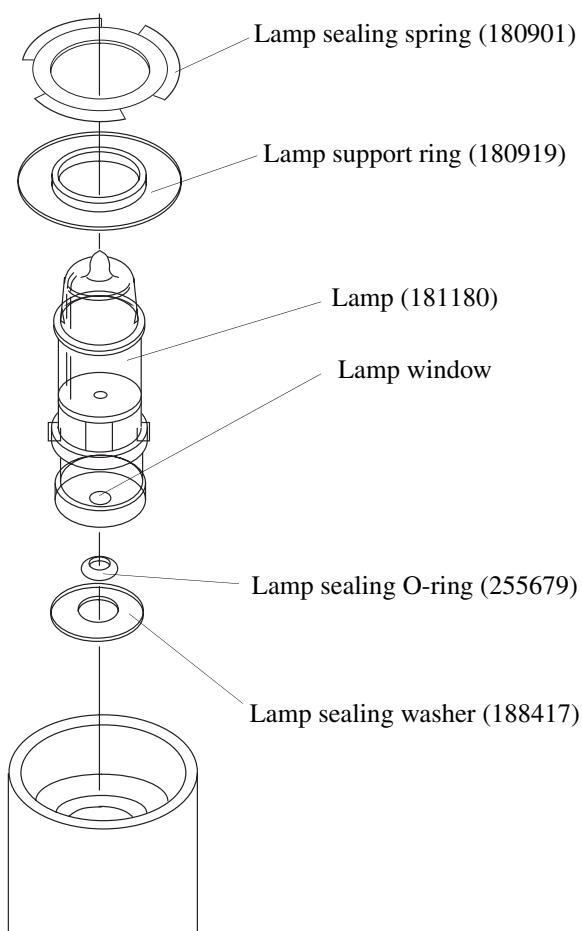

Figure 5.2. PID lamp assembly
7. Reinstall the lamp. Replace the lamp sealing O-ring (PN 255679). Reinstall the PID sensor into the base, verifying all seals, washers, and springs are reinstalled properly (Figure 5.2).